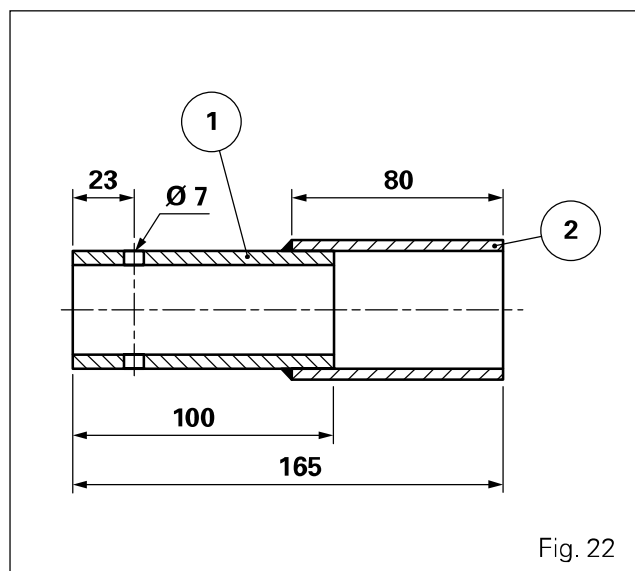
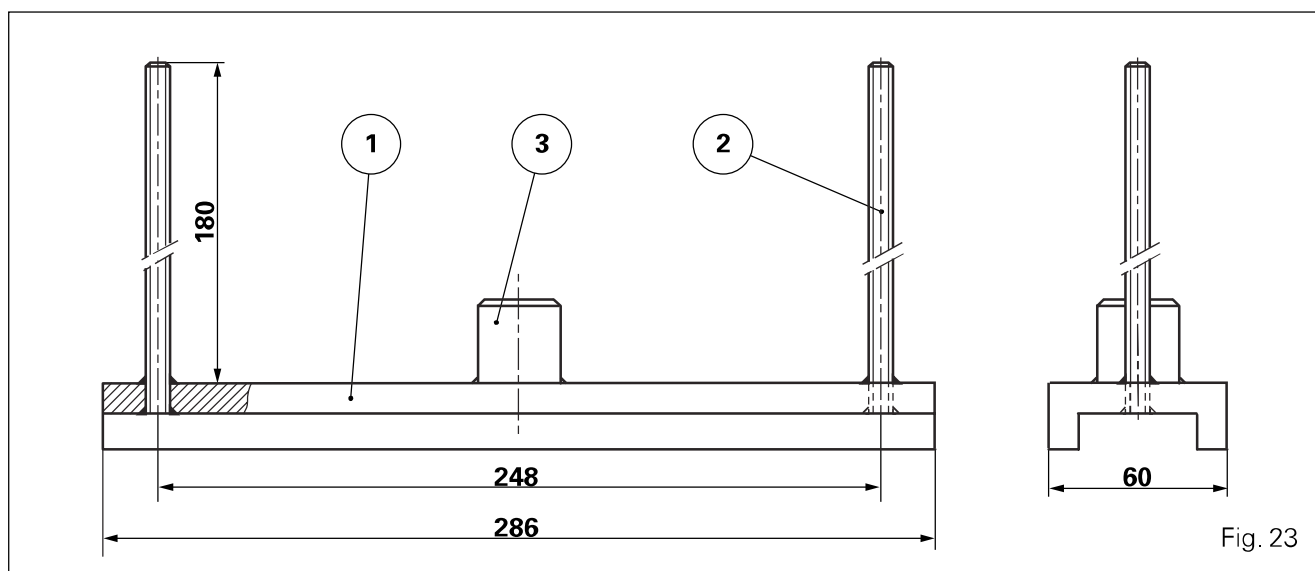

Fig. 22
Fig. 23
- Sleeve for removing and refitting the clutch assembly (Fig. 22)
- (1) - Pipe: Tu52B, external \varnothing 42.4, thickness 5
- (2) - Pipe: Tu52B, external \varnothing 48.3, thickness 2.9
- Belleville washer compression tool (Fig. 23)
- (1) U iron profile: 60
- (2) Threaded rod: \varnothing 8
- (3) Round iron machined with the following dimensions: